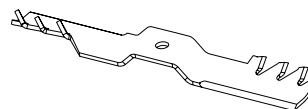

FIG3
- Mulching Blade and Grass Board: see FIG3